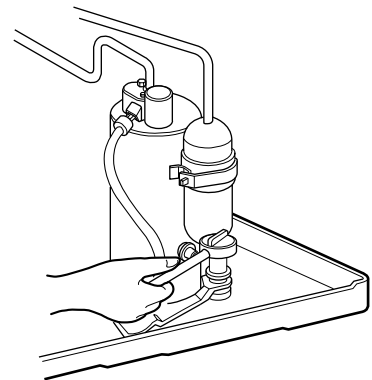

Figure 11
5. Remove the 3 nuts and the 3 washers which fasten the compressor. (See Fig. 11)